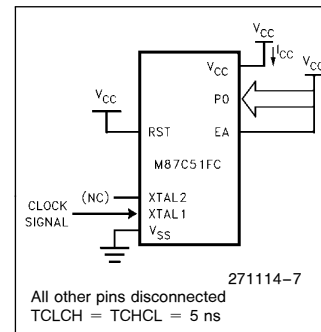
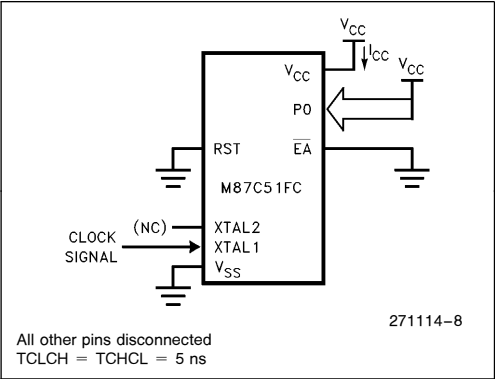
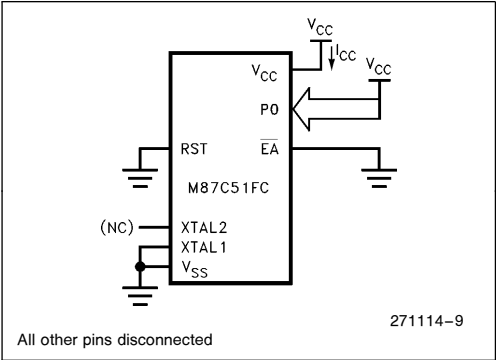

Figure 6. I_{CC} Load Circuits,
Figure 7. I_{CC} Load Circuit Idle Mode
Figure 8. I_{CC} Load Circuit, Power Down Mode.
| I _{CC} | Power Supply Current: Running at 12 MHz (Figure 6) Idle Mode at 12 MHz (Figure 7) Power Down Mode (Figure 8) Running at 16 MHz Idle Mode at 16 MHz Power Down Mode 16 MHz | | 40 10 100 45 15 130 | mA mA μA mA mA mA | (Note 3) |
3. See Figures 6–9 for load circuits. Minimum V_{CC} for Power Down is 2V.